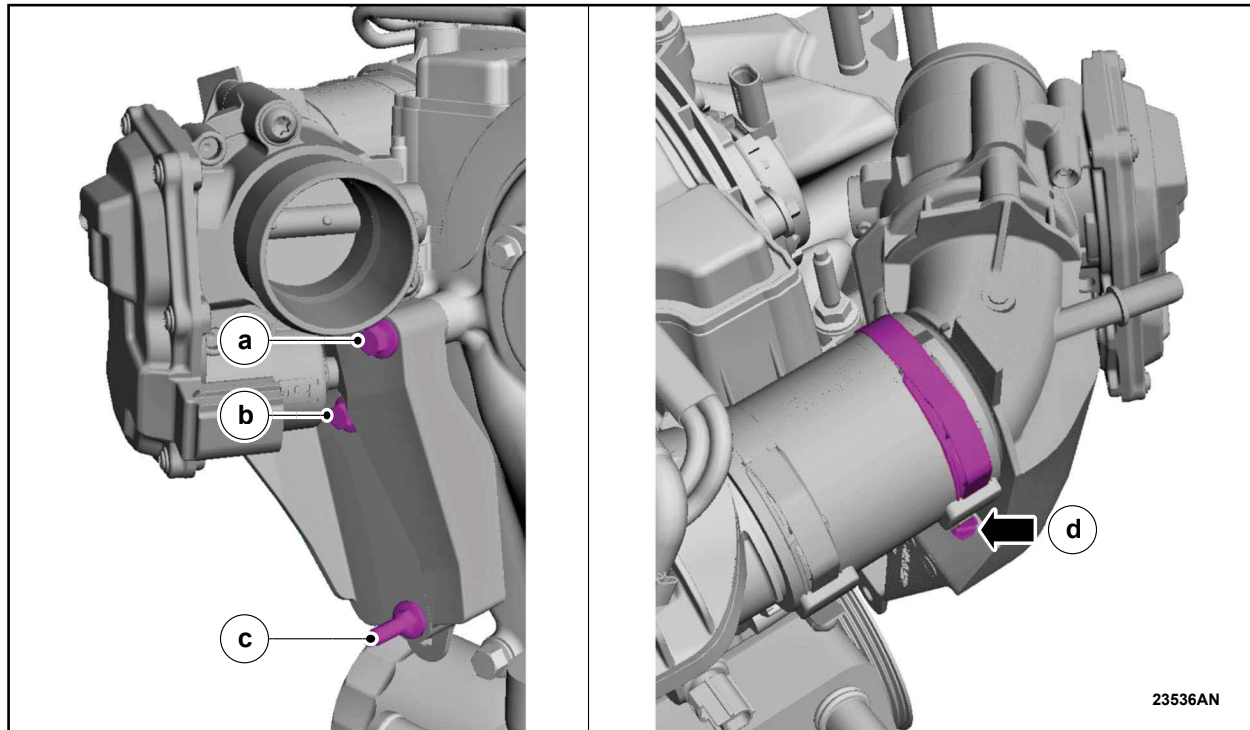

FIGURE 44
52. Tighten the fasteners and the clamp. See Figure 44.